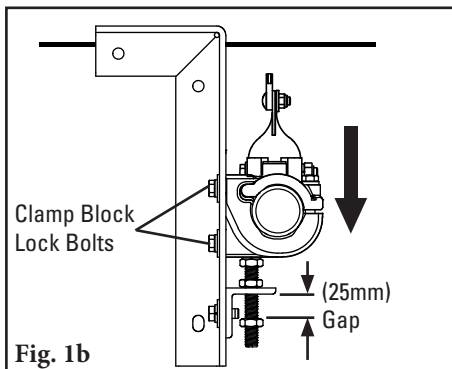
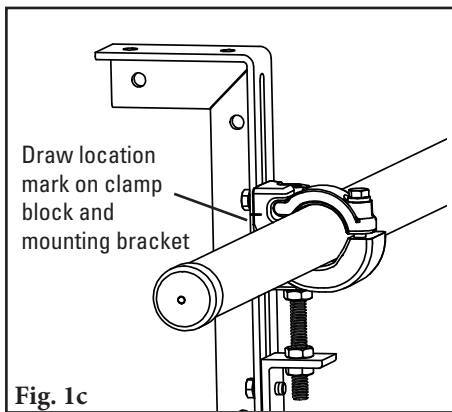
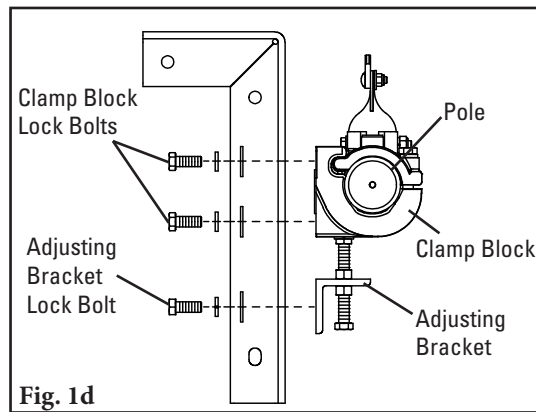

Fig. 1b
Fig. 1c
Fig. 1d
For chute mounting: For a chute installation a belt location line must first be established. Draw a line on the chute replicating this location. If head pulley and snub pulley are close, it may be necessary to assume an approximate belt line between the two. In the determined location draw a line perpendicular to the belt line. Make a mark on this line 175mm below belt location line (Fig. 1b). Locate a mounting bracket along this line allowing the centerline of the clamp block to align with this 175mm mark (Fig. 1c). To move the clamp blocks, if necessary, loosen the clamp block lock bolts and the adjusting bracket lock bolt and move the clamp block to a position where the center of the hole is 175mm below the bottom of the belt. Bolt or weld in place. Repeat this step on the opposite side. On one side an access hole may be required (Fig. 1d). **NOTE:** The brackets must be aligned perpendicular to the belt.
- b. Loosen the clamp block lock bolts on both sides and allow the pole to move down and rest on the raised top adjusting bolt jam nuts (Fig. 1b).
- c. Place location marks across the mounting bracket and the clamp block for quick positioning after blade replacement (Fig. 1c).
- d. Remove the clamp block lock bolts and adjusting bracket lock bolts on each side and remove the pole with the clamp blocks and adjusting brackets attached (Fig. 1d).